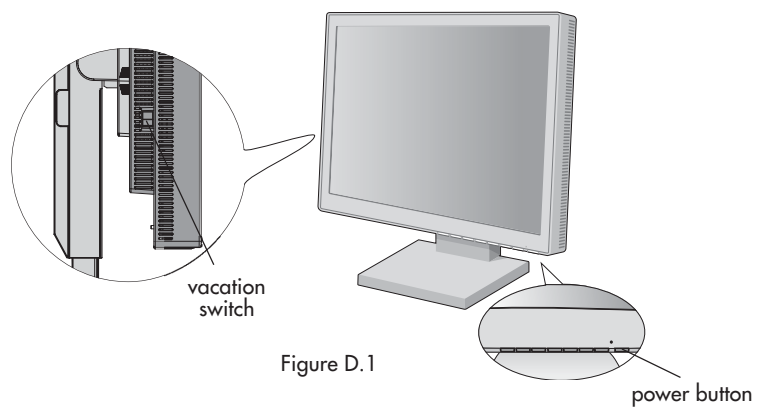

Figure D.1
5. The vacation switch on the left side of the monitor must be turned on (**Figure D.1**). Turn on the monitor with the front power button and the computer.